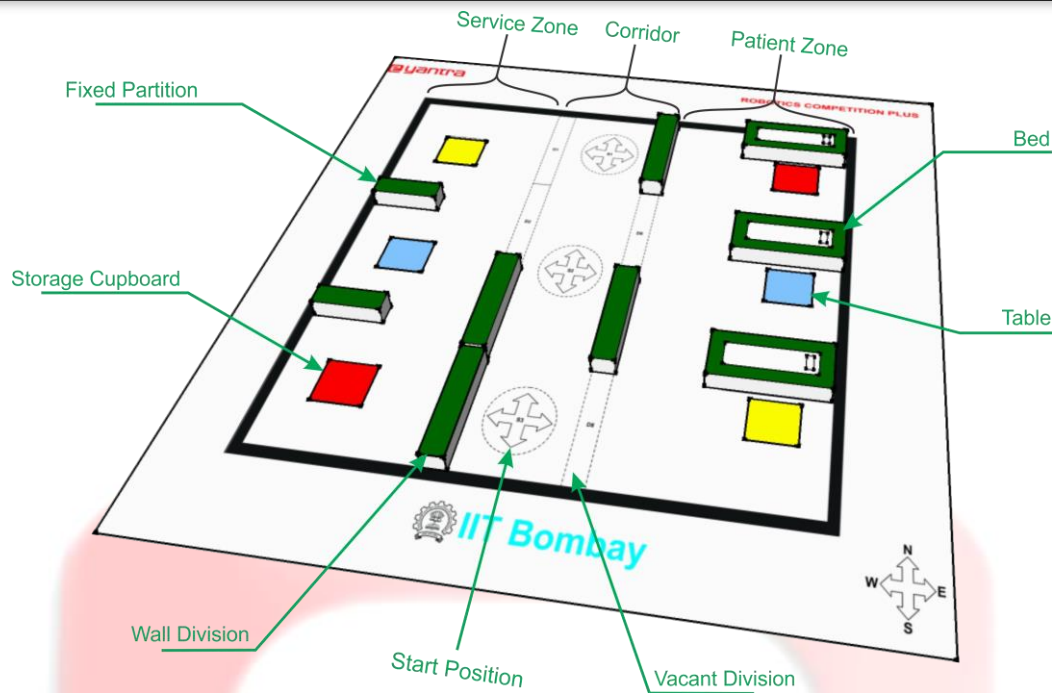

Figure 1: Arena
1. The arena design is as shown in Figure 1:
- Red (R) for Medicines
- Blue (B) for Water, and
- Yellow (Y) for Thermometer.
- P1, P2, P3 are separated by **Fixed Partitions**, FP1 and FP2, as shown in Figure 1.
- There are 4 wall divisions – 2 on either side of the corridor – placed at 4 specified positions among D1, D2, .. , D8. Placements of the wall divisions will be provided as input as explained in Section 3.3. An example is shown in Figure 1.